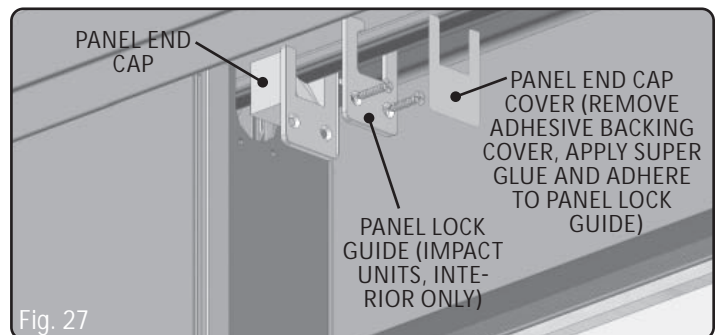

Fig. 27
- Make sure they remain in place, **(Fig. 27)**.
- Finally, apply the panel end cap covers over the panel lock guides, **(Fig. 27)**.